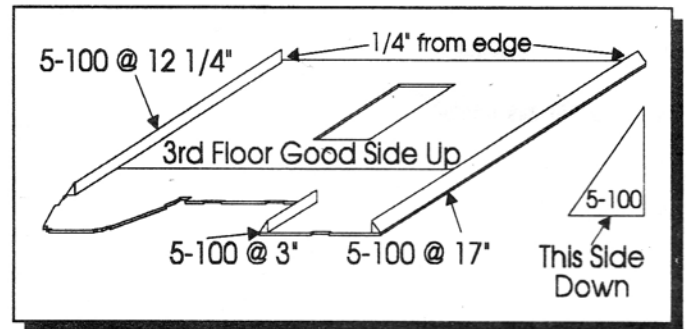

Figure 11
5. From the "LPL" gather the 3", 12 1/4" and the 17" lengths of 5-100 molding. Glue to the edges of the 3rd Floor as in Figure 11.